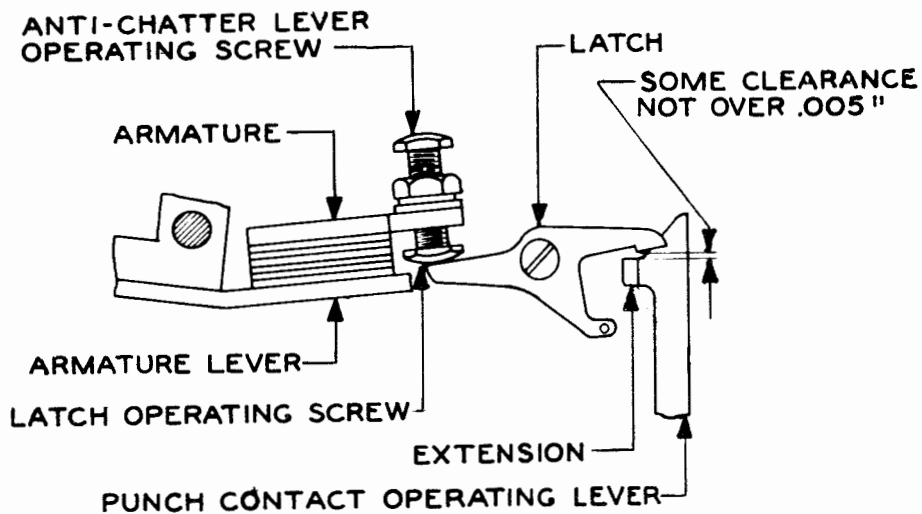

Figure 16
2.29 Latch Extension: There should be clearance, as specified in the figure between the latch and the latch extension on the punch-contact-operating lever with the magnet energized and the punch-operating contacts closed, and the punch-contact-operating lever held so that the latch extension on the lever is in line with the low surface of the latching tip on the latch. See Figure 16.